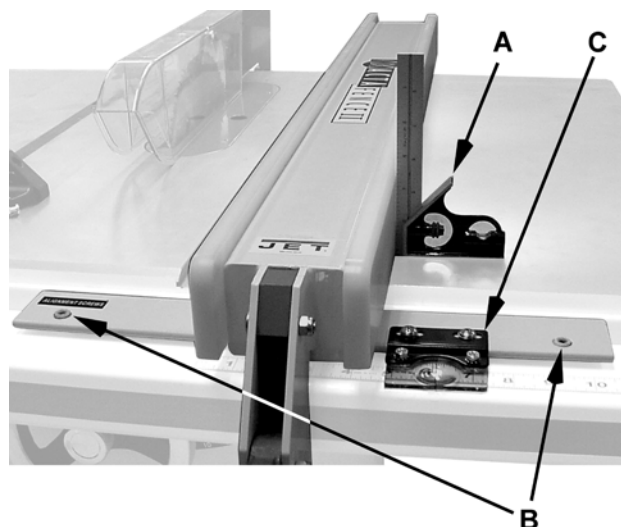

Figure 43
6. Adjust the cursor (C, Fig. 43) to read the distance just measured and tighten the cursor assembly to the fence.